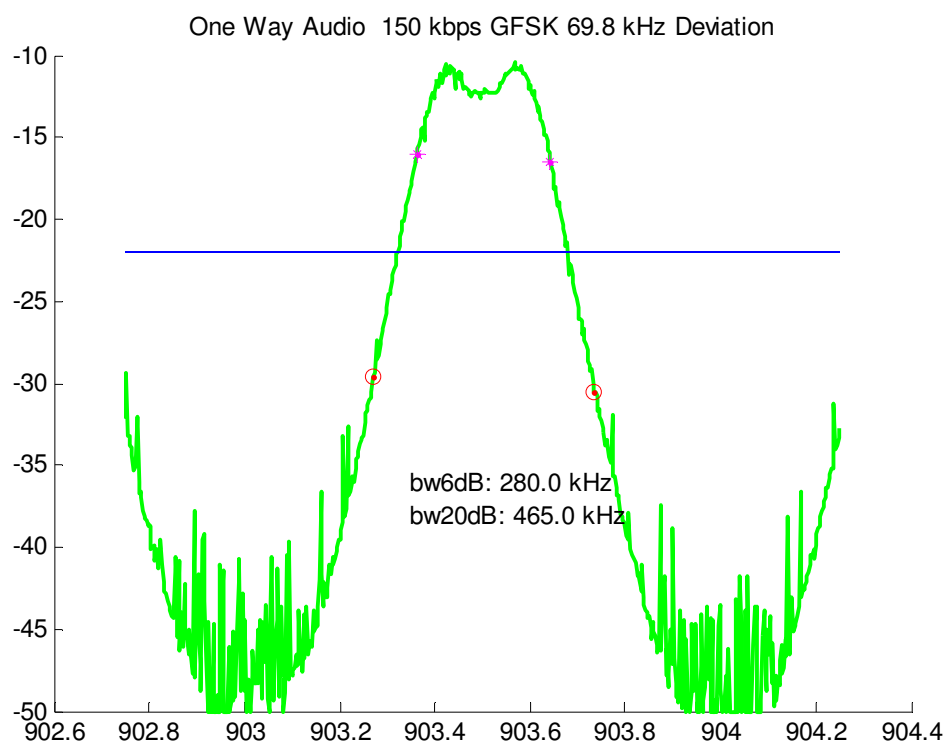

Figure 8 – RF Spectrum using GFSK modulation at 150 kbps, 69.8 kHz deviation
- 1) Frequency hopping system: If the 6 dB bandwidth exceeds 250kHz, at least 25 channels must be used, having a duration of less than 0.4 seconds in a 10 second period, and a maximum output power of 250 mW. The maximum 20 dB bandwidth is 500 kHz. Practically (with the CC1101, CC1150, and CC1110), this can be achieved using GFSK modulation at a data rate of 175 kbps or less and a deviation of 76.2 kHz or less. For this application, a data rate of 150 kbps and a deviation of 69.8 kHz are adequate. Refer to the spectrum plot, Figure 8.